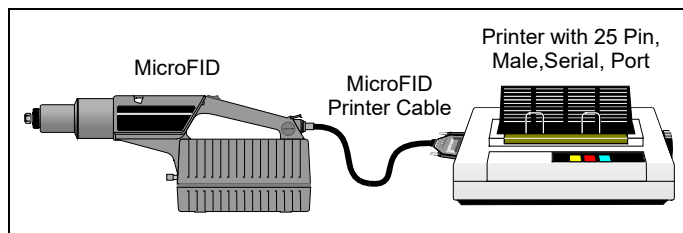

Figure 12 Connecting MicroFID to a Serial Printer
2. Connect the RS-232 printer cable (Part No. MX396051) to the I/O port on the back of the MicroFID and then to the serial port on the printer. See *Figure 12*.